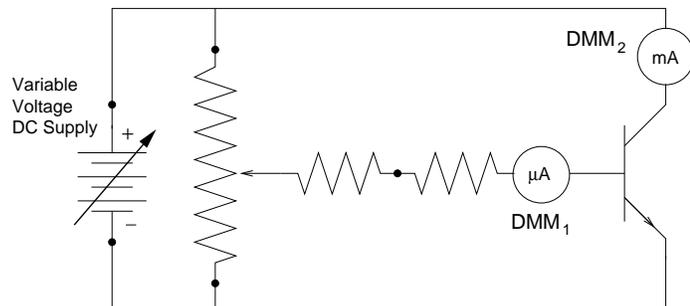

Figure 2
1. **CURRENT Amplification:** Measure β for various emitter to collector voltages, V_{ec} . Set up the circuit as in Fig. 2.
2. (Optional) *MEASUREMENT OF I_c vs V_{eb}* : Remove the multimeter DMM₁ (used as a microammeter) from the circuit of Fig. 2 and use it instead as a voltmeter to measure the emitter to base voltage V_{eb} . With the variable power supply set to give 7 V for V_{ec} , use the voltage divider to vary V_{eb} . Read and record both V_{eb} and I_c for 10 reasonably spaced values of V_{eb} . Plot I_c vs V_{eb} . The results are very similar to a diode curve (as expected since I_c is proportional to I_b over the region where β is a constant).